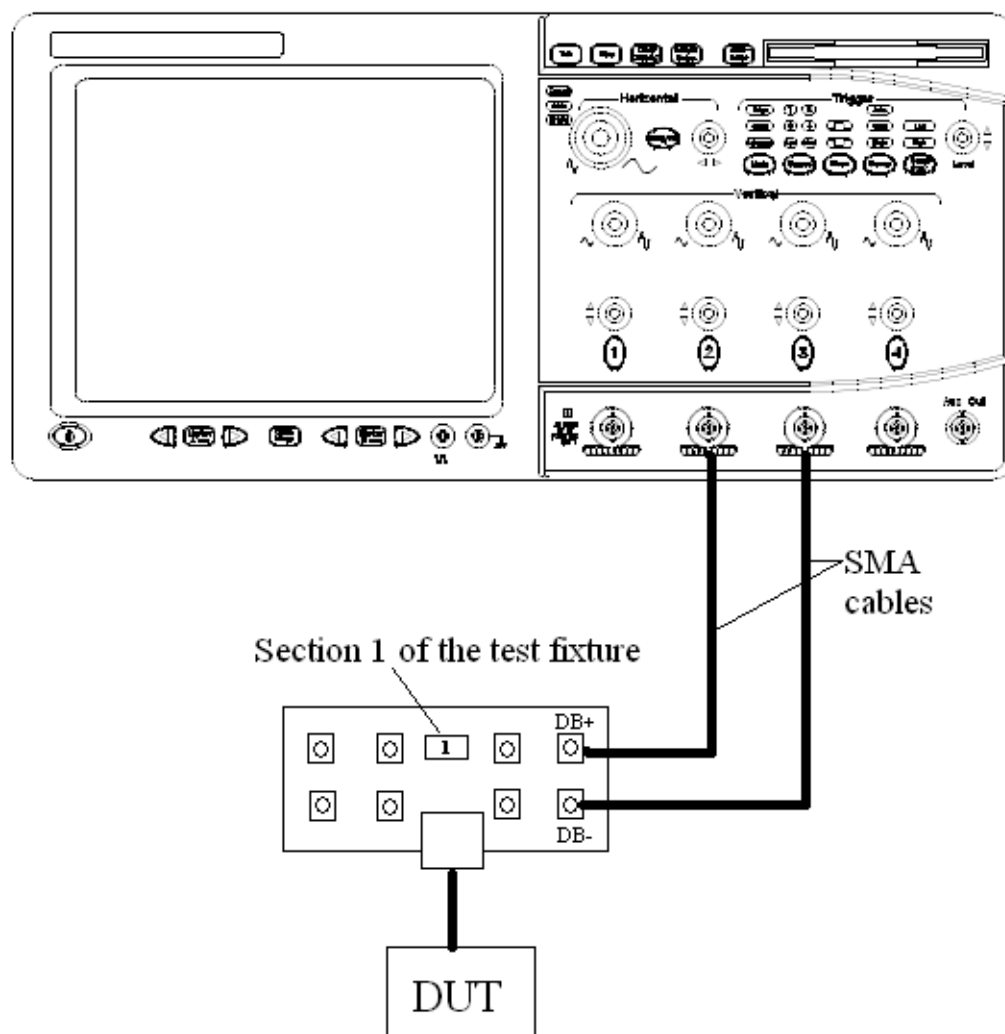

Figure 34 Probing for 1000 Base-T Jitter MASTER Unfiltered without access to TX_TCLK
When performing 1000 Base-T jitter tests for the DUT without providing access to the internal TX_TCLK, you can view the connection setup under the application's "Connection" tab (also shown in Figure 34).
- 2 Connect one end of two short SMA-SMA cables to the SMA test points for the pair you are testing (A, B, C, or D) on fixture 1 and the other end to the Channel 3 and Channel 4 of the oscilloscope. (The channel shown in Figure 34 is just an example.)
- 2 As shown in Figure 34, configure the "DB+" to Channel 2 and "DB-" to Channel 3 (this channel mapping will vary as per the selected test pair).
As indicated in Figure 34, only the MDI data signal is connected to the oscilloscope. The algorithm proceeds as follows:
As indicated in Figure 34, only the signal at MDI is connected to the oscilloscope. The algorithm proceeds as follows: